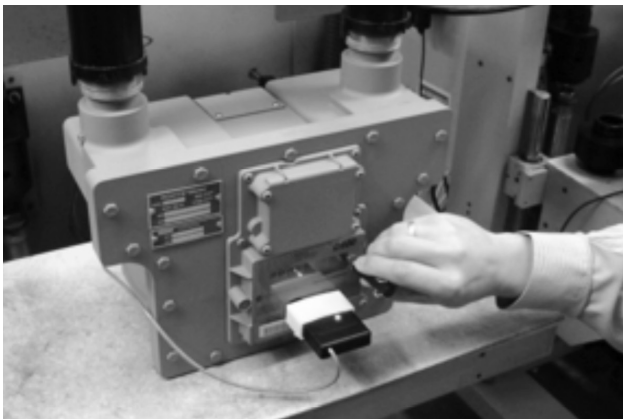

Figure 13 - Light on IrDA cable indicates connection is established
3. Place the meter into the Compensated Prove mode. (Refer to Section 1.2 for information assistance.) Once the meter goes into prove mode the red light will switch from a flashing red light to a solid red light as shown in Figure 13. Now the meter test will start.